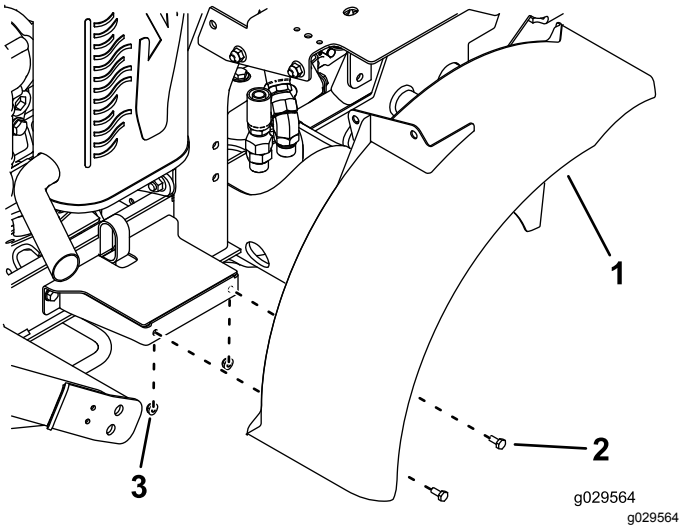

Figure 37
14. Loosely mount the side of the right fender to the fender mount with 2 bolts (1/4 x 5/8 inch) and 2 nuts (1/4 inch) as shown in Figure 37.
15. Loosely mount the bracket, on the top of the fender, to the fuel-tank bracket with 2 bolts (3/8 x 3/4 inch) and 2 nuts (3/8 inch) as shown in Figure 37.